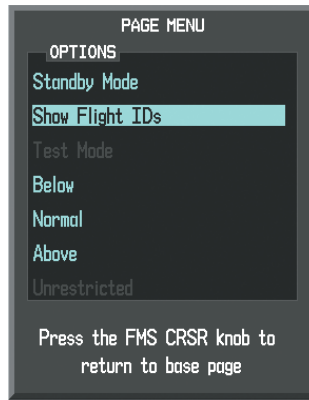

Figure 6-97 Traffic Map Page Menu
- 2) Turn the small **FMS** Knob to select 'Show Flight IDs' or 'Hide Flight IDs' (choice dependent on current state) (Figure 6-97).